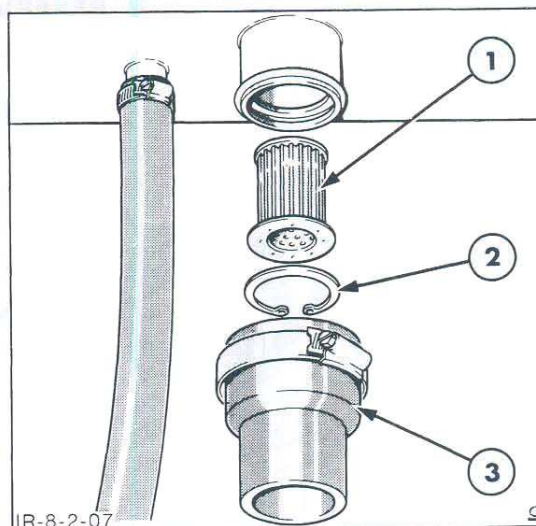

Figure 7
2. Remove the snap ring retaining the wire mesh screen located in the outlet port of the reservoir and withdraw the screen, Figure 7. Wash the screen in a suitable solvent.